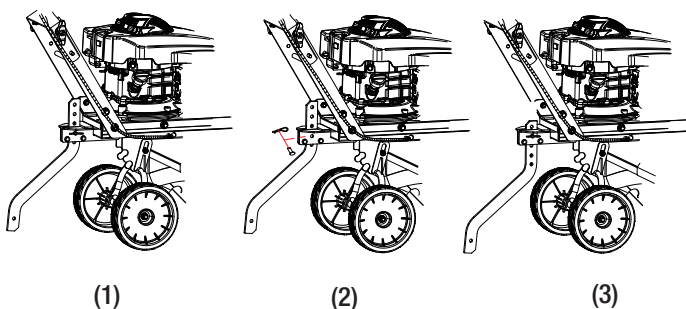

Figure 1-8
- Adjust the depth regulator to desired tilling depth. Insert the clevis and cotter pin to secure depth regulator to desired depth. See Figure 1-8.